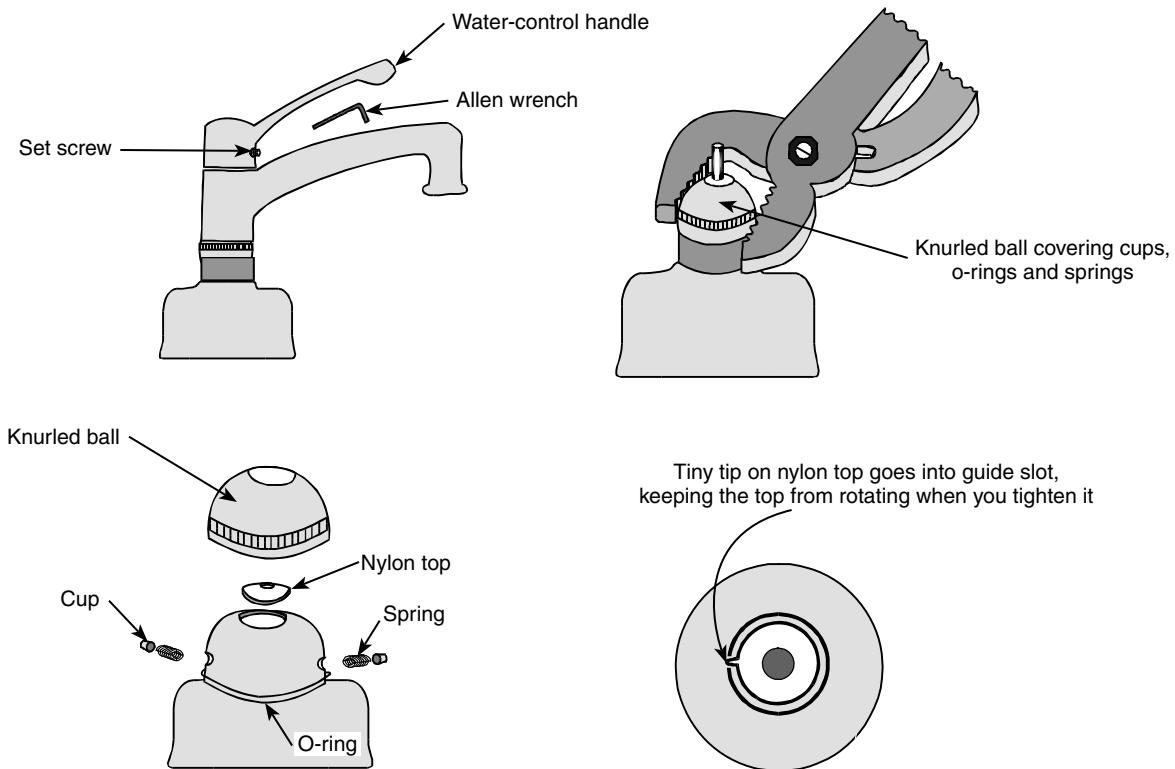

Figure 9-10
1. The first step in repairing the leak is to remove the water-control handle. It's held on by an Allen screw either at the front or back of the control handle base. Once you loosen the screw, you can lift the handle off. The spout will come off too, because it was secured by the handle. You'll see a dome-shaped metal semi-circle with a knurled ring around it, as shown in Figure 9-10. This dome covers the o-rings, springs, etc. and holds them in place.